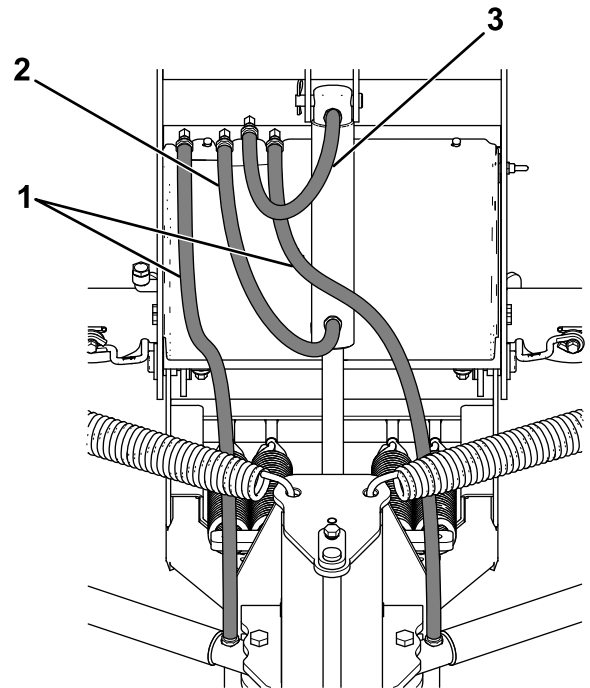

Figure 13
- 1. Remove the plug on the upper fitting on the lift cylinder (Figure 13).
- 2. Using thread compound, install the 39 cm (15-1/2 inch) hydraulic hose to the upper fitting on the lift cylinder (Figure 13). Turn the fitting until it is finger tight, then turn it 2 to 3 more times.
- 3. Connect the free end of the hydraulic hose to the rear fitting on the hydraulic shelf (Figure 13). Turn the fitting until it is finger tight, then turn it 2 to 3 more times.
- 4. Install the 45 cm (18 inch) hydraulic hose to the middle fitting on the hydraulic shelf and the lower fitting on the lift cylinder (Figure 13). Turn the fitting until it is finger tight, then turn it 2 to 3 more times.
6. Install the O-ring end of the 106 cm (42 inch) hydraulic hose to the port on the right angle cylinder and the other end to the right fitting on the hydraulic shelf (Figure 13). Turn the fitting until it is finger tight, then turn it 2 to 3 more times.